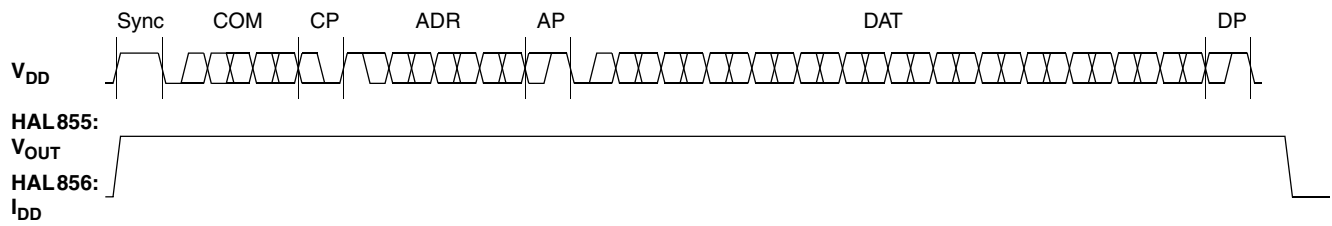
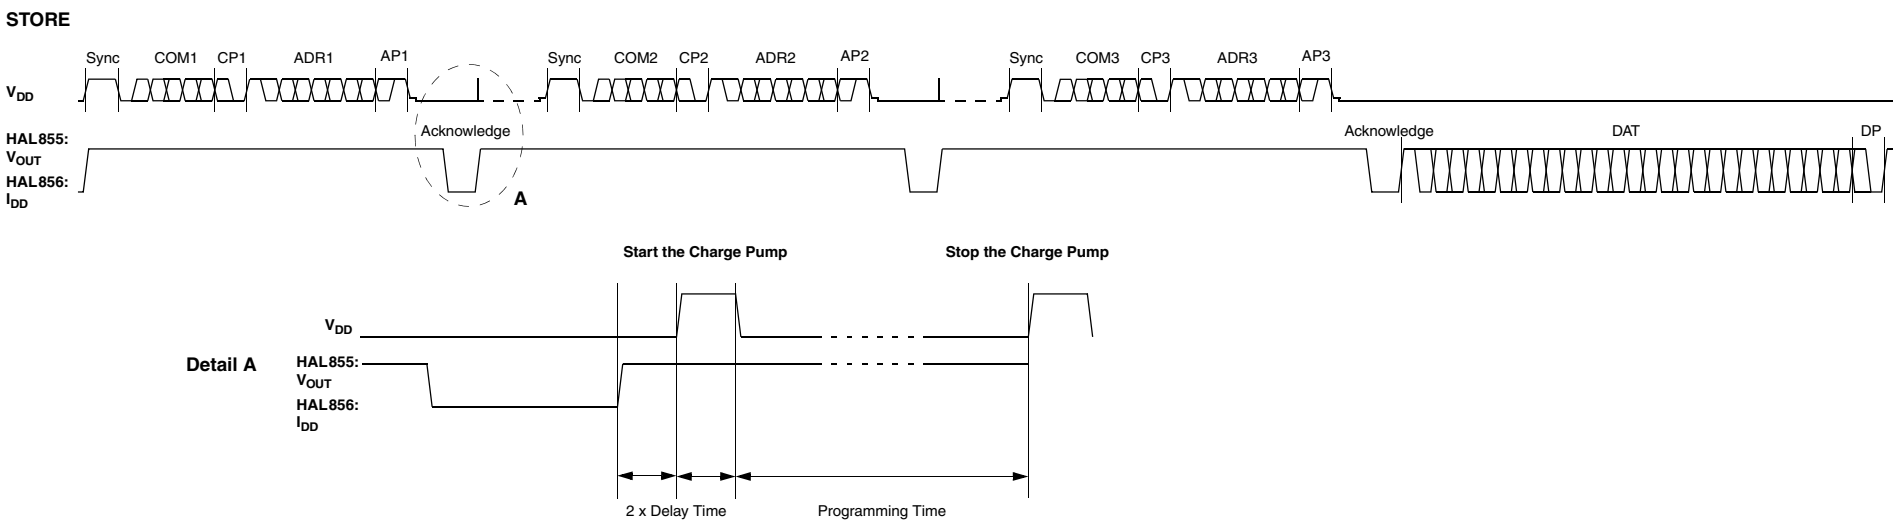

Fig. 7-2: Telegram for coding a Write command
Fig. 7-4: Telegram for programming the EEPROM
After the AP bit, follow 14 Data Bits (DAT) and the Data Parity bit (DP). If the telegram is valid and the command has been processed, the sensor answers with an Acknowledge bit (logical 0) on the output (see Fig. 7-2).
In order to permanently store the written data into the EEPROM cells, an erase and program command have to be sent to the sensor. After the recognition of the erase and program commands, the HAL856 answers with an acknowledge pulse on its output signal. After the acknowledge pulse, a pulse on the V_{DD} -line is created to start the charging of the EEPROM cells. Then the supply voltage is kept constant during the charging time. To stop the charging, a further command is sent to the HAL856. This stopping command can be a further programming command or a read command (see Fig. 7-4).
To lock the EEPROM registers, the lock bit has to be programmed. Write the lock bit into the lock register (see Fig. 7-2). If the telegram is valid and the command has been processed, the sensor answers with an Acknowledge Bit (logical 0) on the output. In order to store the lock bit permanently, an erase and program command have to be sent to the sensor. This is the same procedure as mentioned above (see Programming the EEPROM cells and Fig. 7-4). The EEPROM registers are locked **after** a power on reset.